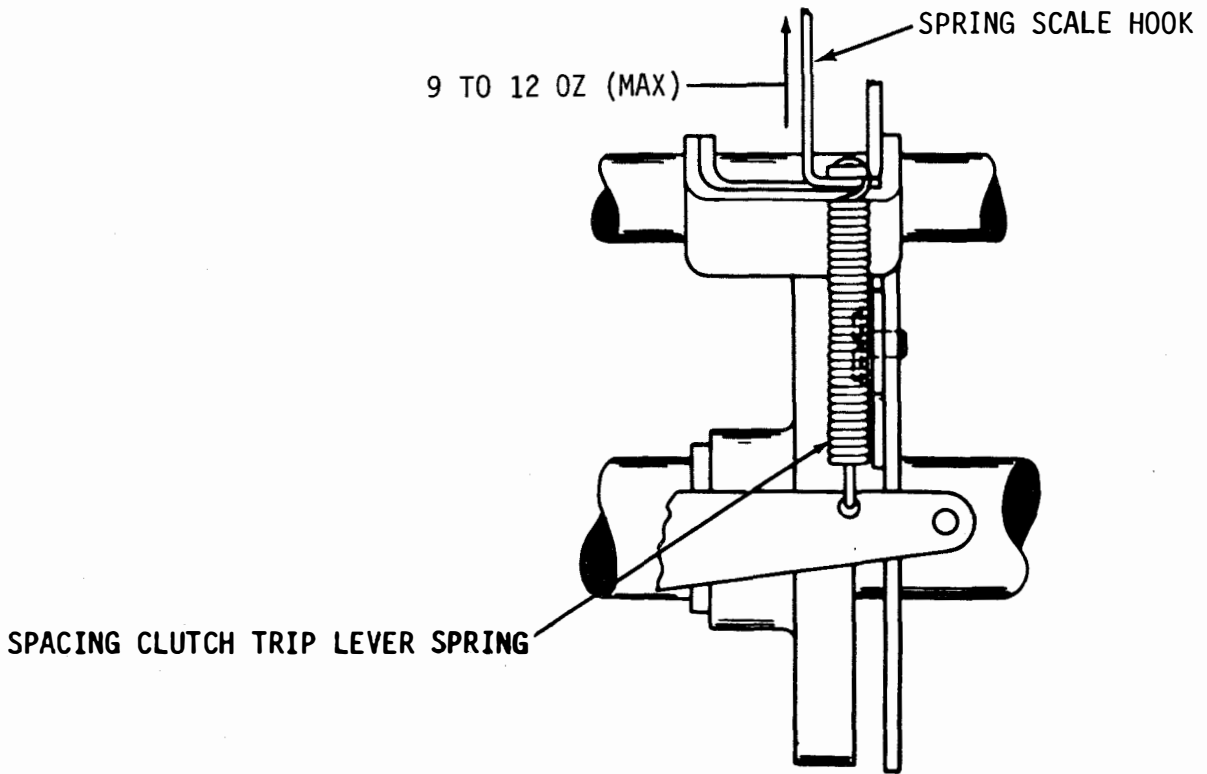

Figure 6-406. Line-Feed Clutch Trip Lever Spring, Rear View
(16) Line-Feed Clutch Trip Lever Spring. Adjust as follows:
- Figure 6-406.